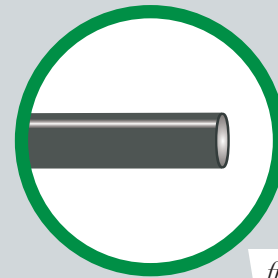

fig. E.3
When cutting air lines, use a sharp knife or a hose cutter and make clean, square cuts (Fig. E.3). Do not use scissors or wire cutters because these tools may deform the air line, causing it to leak around fittings. Do not cut the lines at an angle.
- a. Check the air line connection by deflating the spring and removing the line by pulling the collar against the fitting and pulling firmly on the air line. Trim 1" off the end of the air line. Be sure the cut is clean and square (see Fig. E.3). Reinsert the air line into the push-to-connect fitting.